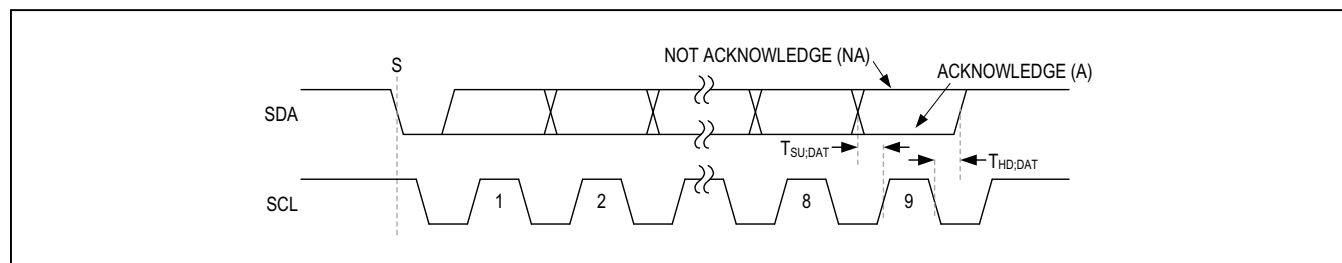

Figure 6. Acknowledge Bit
Both the I2C bus master and the MAX17271/MAX17273 (slave) generate acknowledge bits when receiving data. The acknowledge bit is the last bit of each nine bit data packet. To generate an acknowledge (A), the receiving device must pull SDA low before the rising edge of the acknowledge-related clock pulse (ninth pulse) and keep it low during the high period of the clock pulse. See Figure 6. To generate a not-acknowledge (nA), the receiving device allows SDA to be pulled high before the rising edge of the acknowledge-related clock pulse and leaves it high during the high period of the clock pulse.